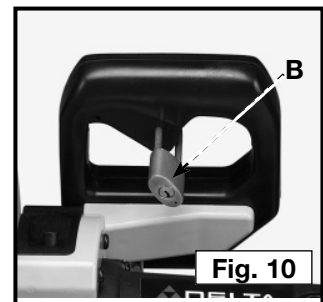

Fig. 10
IMPORTANT: When the machine is not in use, the switch should be locked in the "OFF" position to prevent unauthorized use, using a padlock (B) Fig. 10 with a 3/16" diameter shackle.